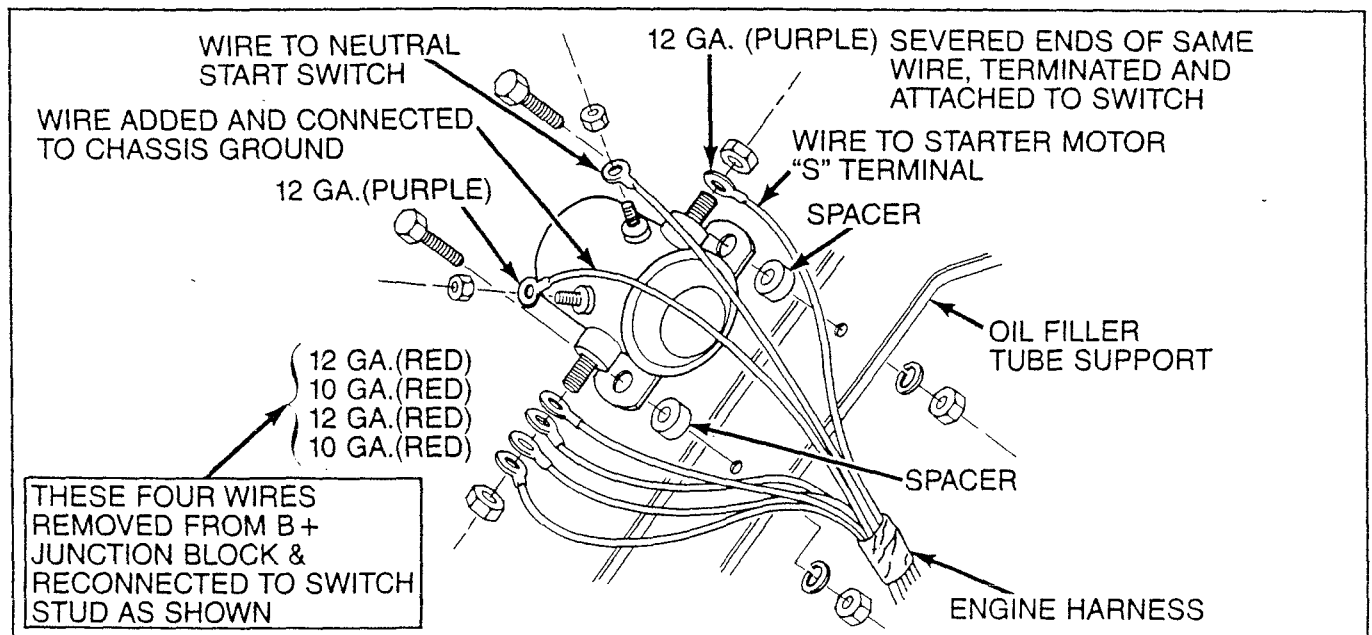

Figure A7-10-4 — Magnetic Switch Mounting and Connection
1. Drill two holes in the oil dipstick tube bracket. Use holes in magnetic switch mount as a template for hole location. Removal of bracket will facilitate drilling. (See Figure A7-10-4.)